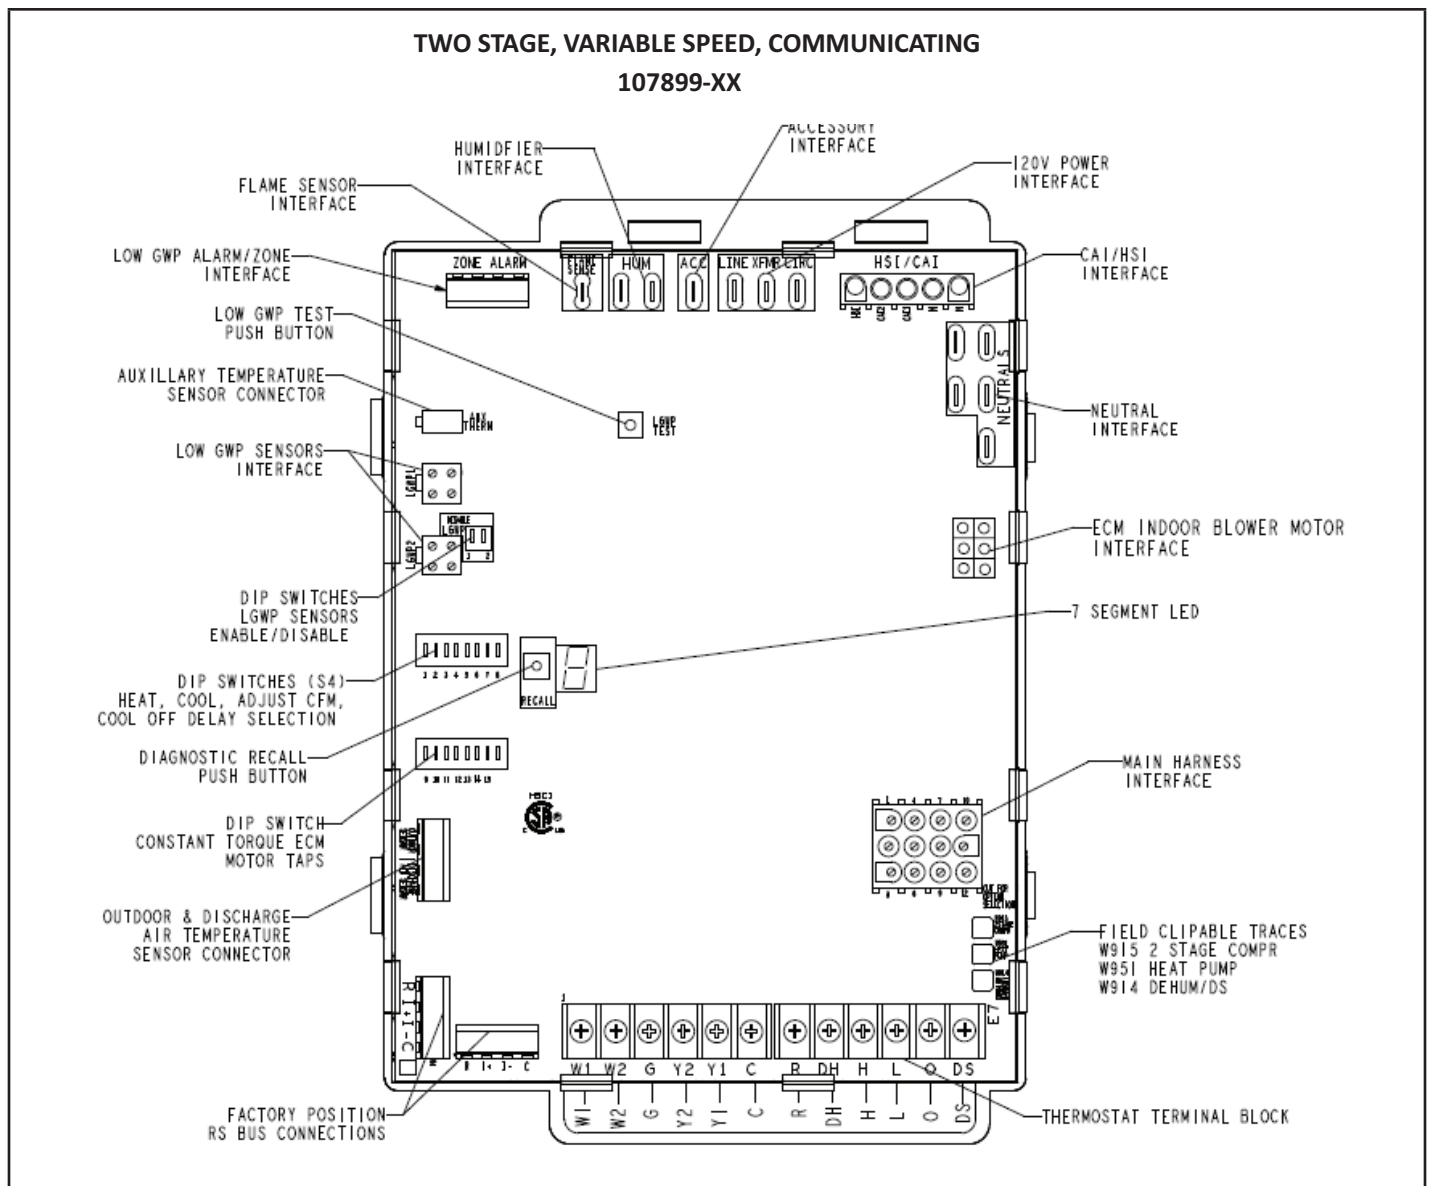

FIGURE 4
Units are equipped with a communicating enabled two-stage, variable speed integrated control. This control is used with a communicating thermostat as part of a communicating comfort system. The control can also operate with a non-communicating conventional single or two-stage thermostat. The system consists of a ignition / blower control (FIGURE 4) with control pin designations in TABLE 1, TABLE 2, TABLE 3, TABLE 4 and ignitor. The control and ignitor work in combination to ensure furnace ignition and ignitor durability. The control provides gas ignition, safety checks and indoor blower control with two-stage gas heating. The furnace combustion air inducer, gas valve and indoor blower are controlled in response to various system inputs such as thermostat signal, pressure and limit switch signal and flame signal. The control features a seven-segment LED display, indicating furnace status (including indoor blower) and error codes. The LED flashes in single digits. The control also has two unpowered (dry) 1/4" contacts for a humidifier and a 120 volt accessory terminal. Both rated at (1) one amp each.
Diagnostic LED (FIGURE 4)
Diagnostic Push Button (FIGURE 4)